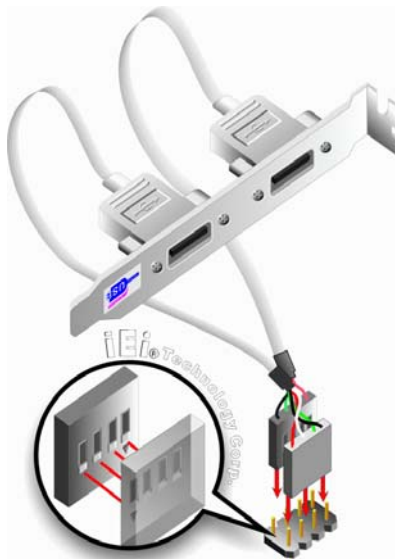

Figure 4-15: Dual USB Cable Connection
Step 3: Insert the cable connectors. Once the cable connectors are properly aligned with the USB connectors on the IMB-Q354, connect the cable connectors to the onboard connectors. See **Figure 4-15**.